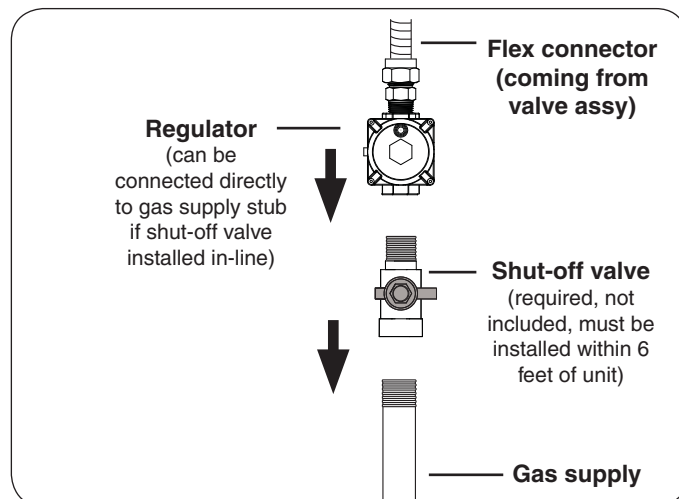

Fig. 21-4 Connecting to a gas line
2. A shut-off valve is required within 6 feet of the unit. Connect the regulator (on end of flex connector) to the shut-off valve OR gas supply using a pipe joint compound resistant to all gasses (see Fig. 21-4). Tighten securely.